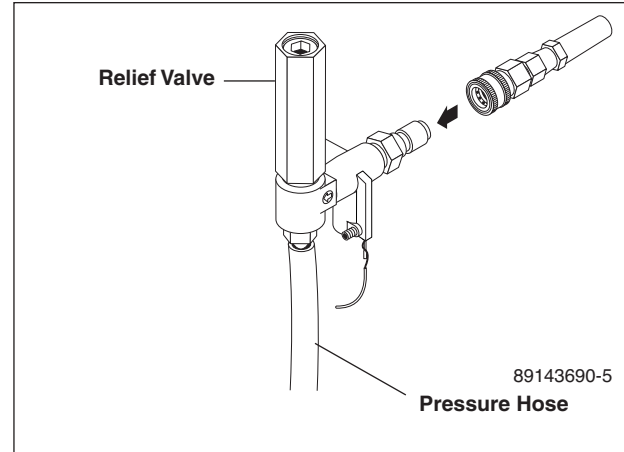

Figure 3 - Installing Pressure Hose
2. Install the pressure hose on the pressure washer as shown in **Figure 3**.